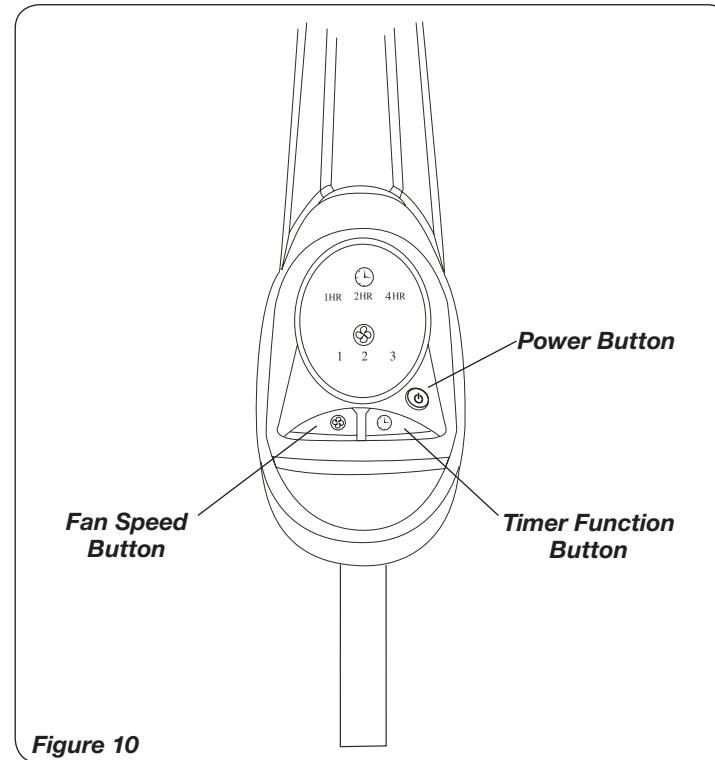
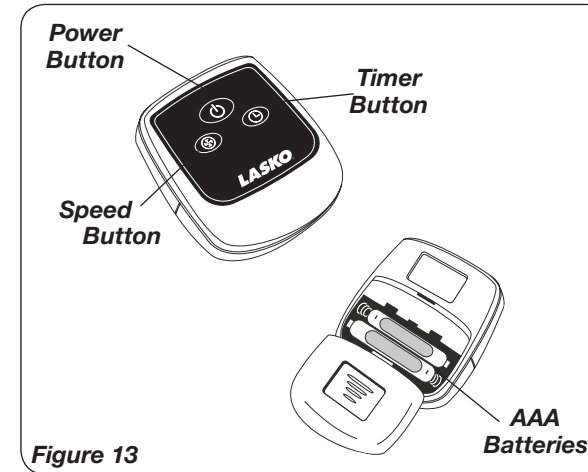

Figure 10
Figure 13
This Fan may be operated by the Manual Controls located on front of the unit (as shown in *Figure 10*) or by the Remote Control (shown in *Figure 13*).
1. Install batteries (not supplied) as shown in *Figure 13*. The battery is size "AAA".